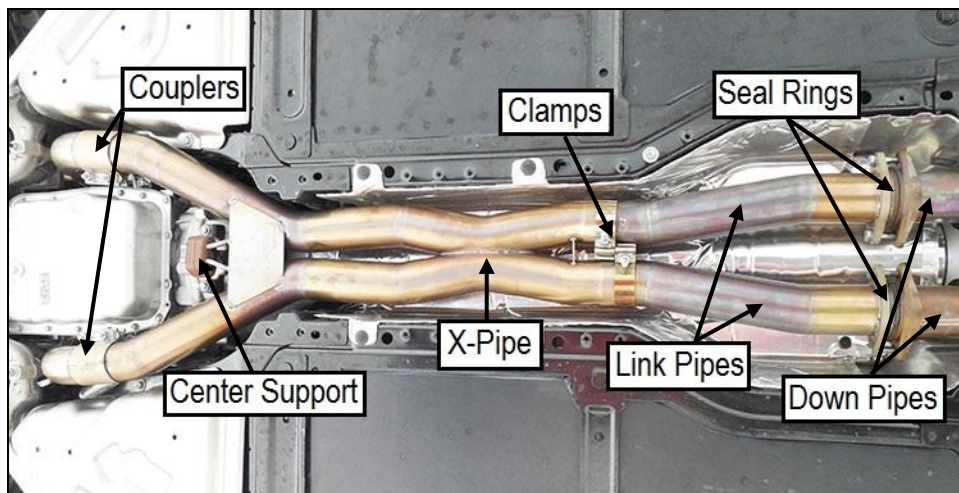

Figure 6
2. Install the 76mm band clamps onto each inlet pipe of the Blackheart X-pipe (expanded end with notches). The clamps need to be configured so the threaded stud of the clamp is positioned to align with the cut out in the lower skid plate (**Figure 6**).
3. Install the RIGHT link pipe (long link pipe) into the X-pipe's short expanded end (**Figure 6**). Tighten the clamp to allow for adjustment.
4. Install the LEFT link pipe (short link pipe) into the X-pipe's long expanded end (**Figure 6**). Tighten the clamp to allow for adjustment.
7. Install the 3" Torca couplers onto the outlet of the X-pipe with the bolts towards the transmission and the nuts facing down (**Figure 6**).